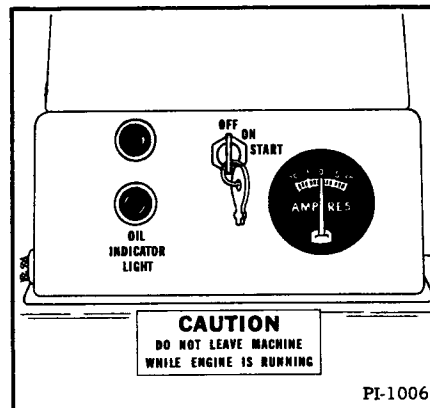

Fig. 8 Left Instrument Panel
8. If the oil indicator light (Figure 8) comes on and stays on, stop the engine and troubleshoot.